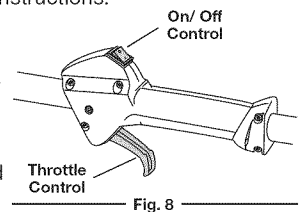

Fig. 8
NOTE: There is no need to turn the unit on. The On/Off Control is in the ON (I) position at all times (Fig. 8).
2. Press and hold the On/Off Control switch in the **OFF (O)** position until the unit comes to a complete stop (Fig. 8).
- NOTE:** There is no need to turn the unit on. The On/Off Control is in the ON (I) position at all times (Fig. 8).
2. Press and hold the On/Off Control switch in the OFF (O) position until the unit comes to a complete stop (Fig. 8).